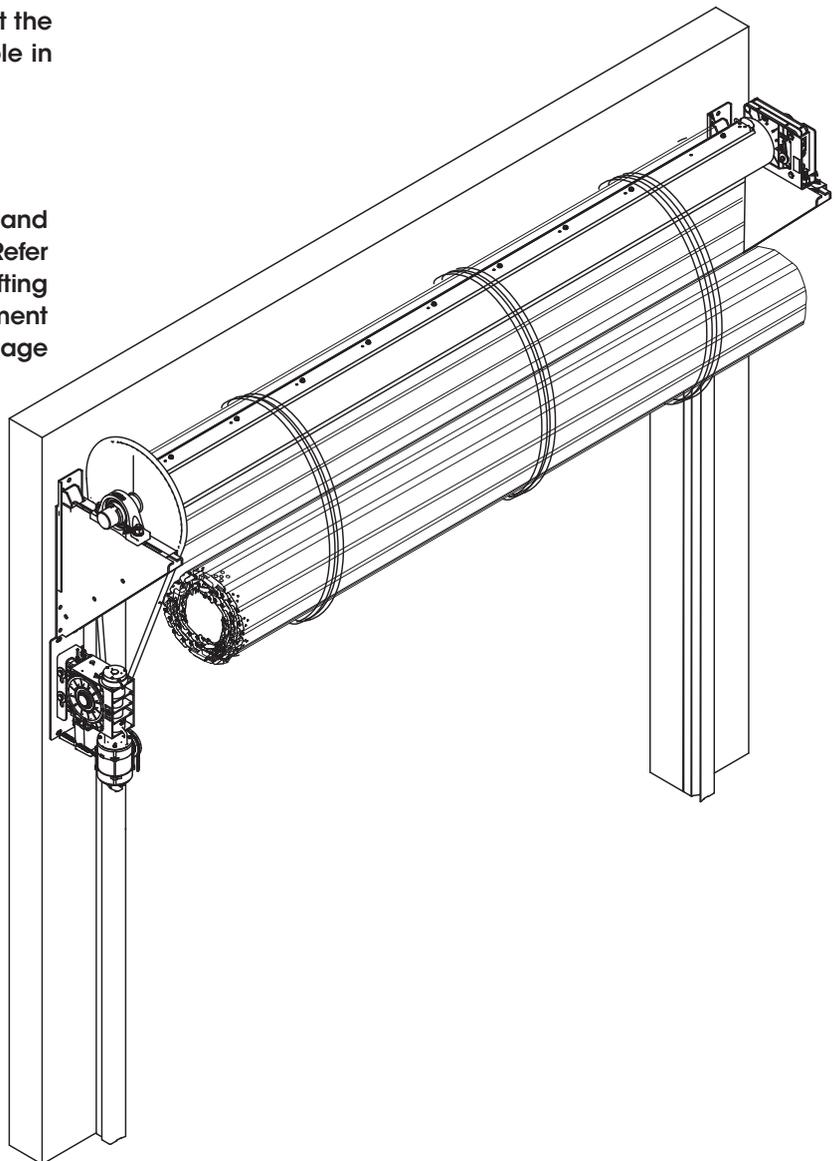

Fig: 2.4.1 Chain drive product shown
- Carefully lift to within 300mm under the drum, Figure 2.4.1, by means of two other lengths of heavy gauge rope sling the curtain roll up to the drum as shown in the illustration. Make sure the end of the curtain is on top of the roll and able to be raised up.